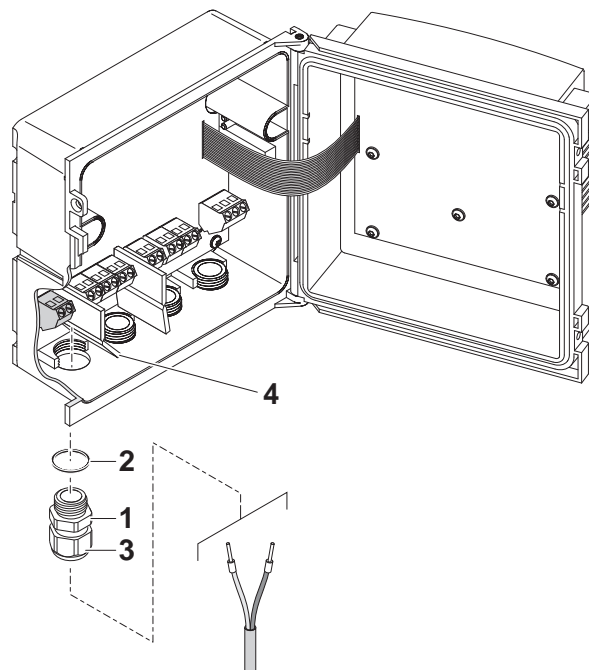

Fig. 3-29 Inserting the 24V AC/DC line
| 5 | Screw a cable gland (pos. 1 in Fig. 3-29) with sealing ring (pos. 2) into the enclosure below the 24 V AC/DC connection. |
| 9 | Tighten the coupling ring (pos. 3 in Fig. 3-29). |